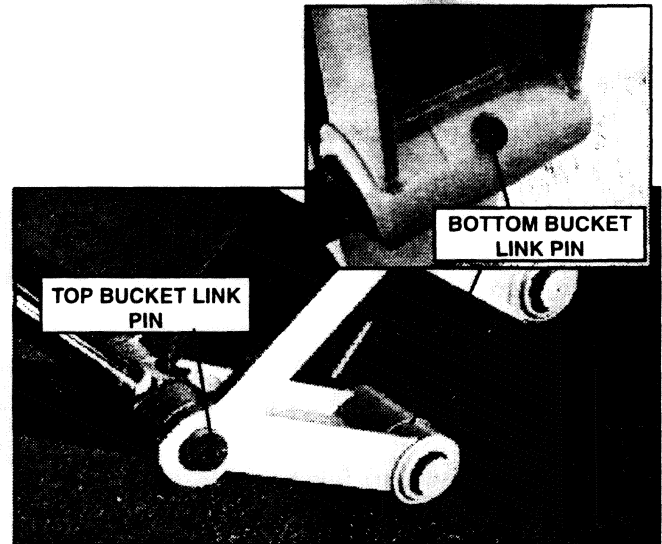

FIGURE 4.106
7. Bucket Link Pins. See Figure 4.106.